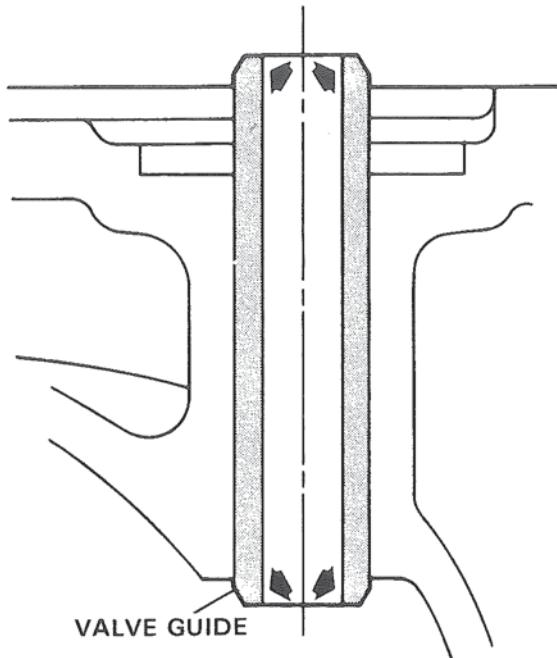

Figure 20. Checking Wear of Valve Guide.
A. Check valve guide for uneven wear at top and bottom. Figure 20.